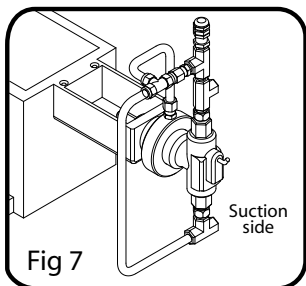

Fig 7
12. Connect drain port to suction side of fluid end (9) (Typical Installation Shown) **[FIG 7]**